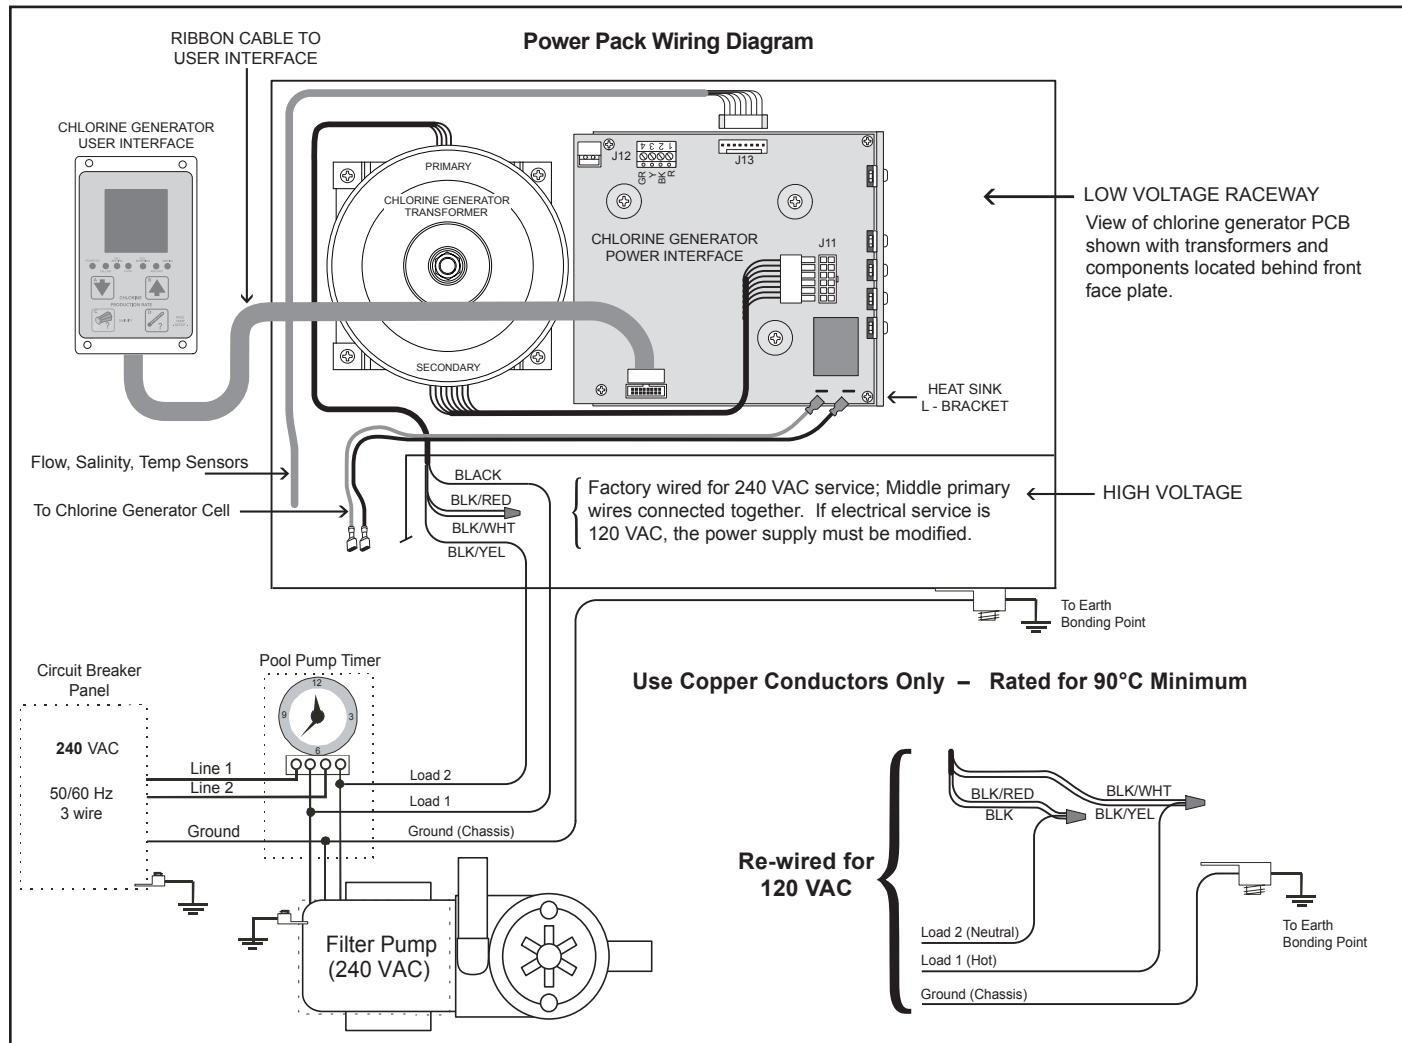
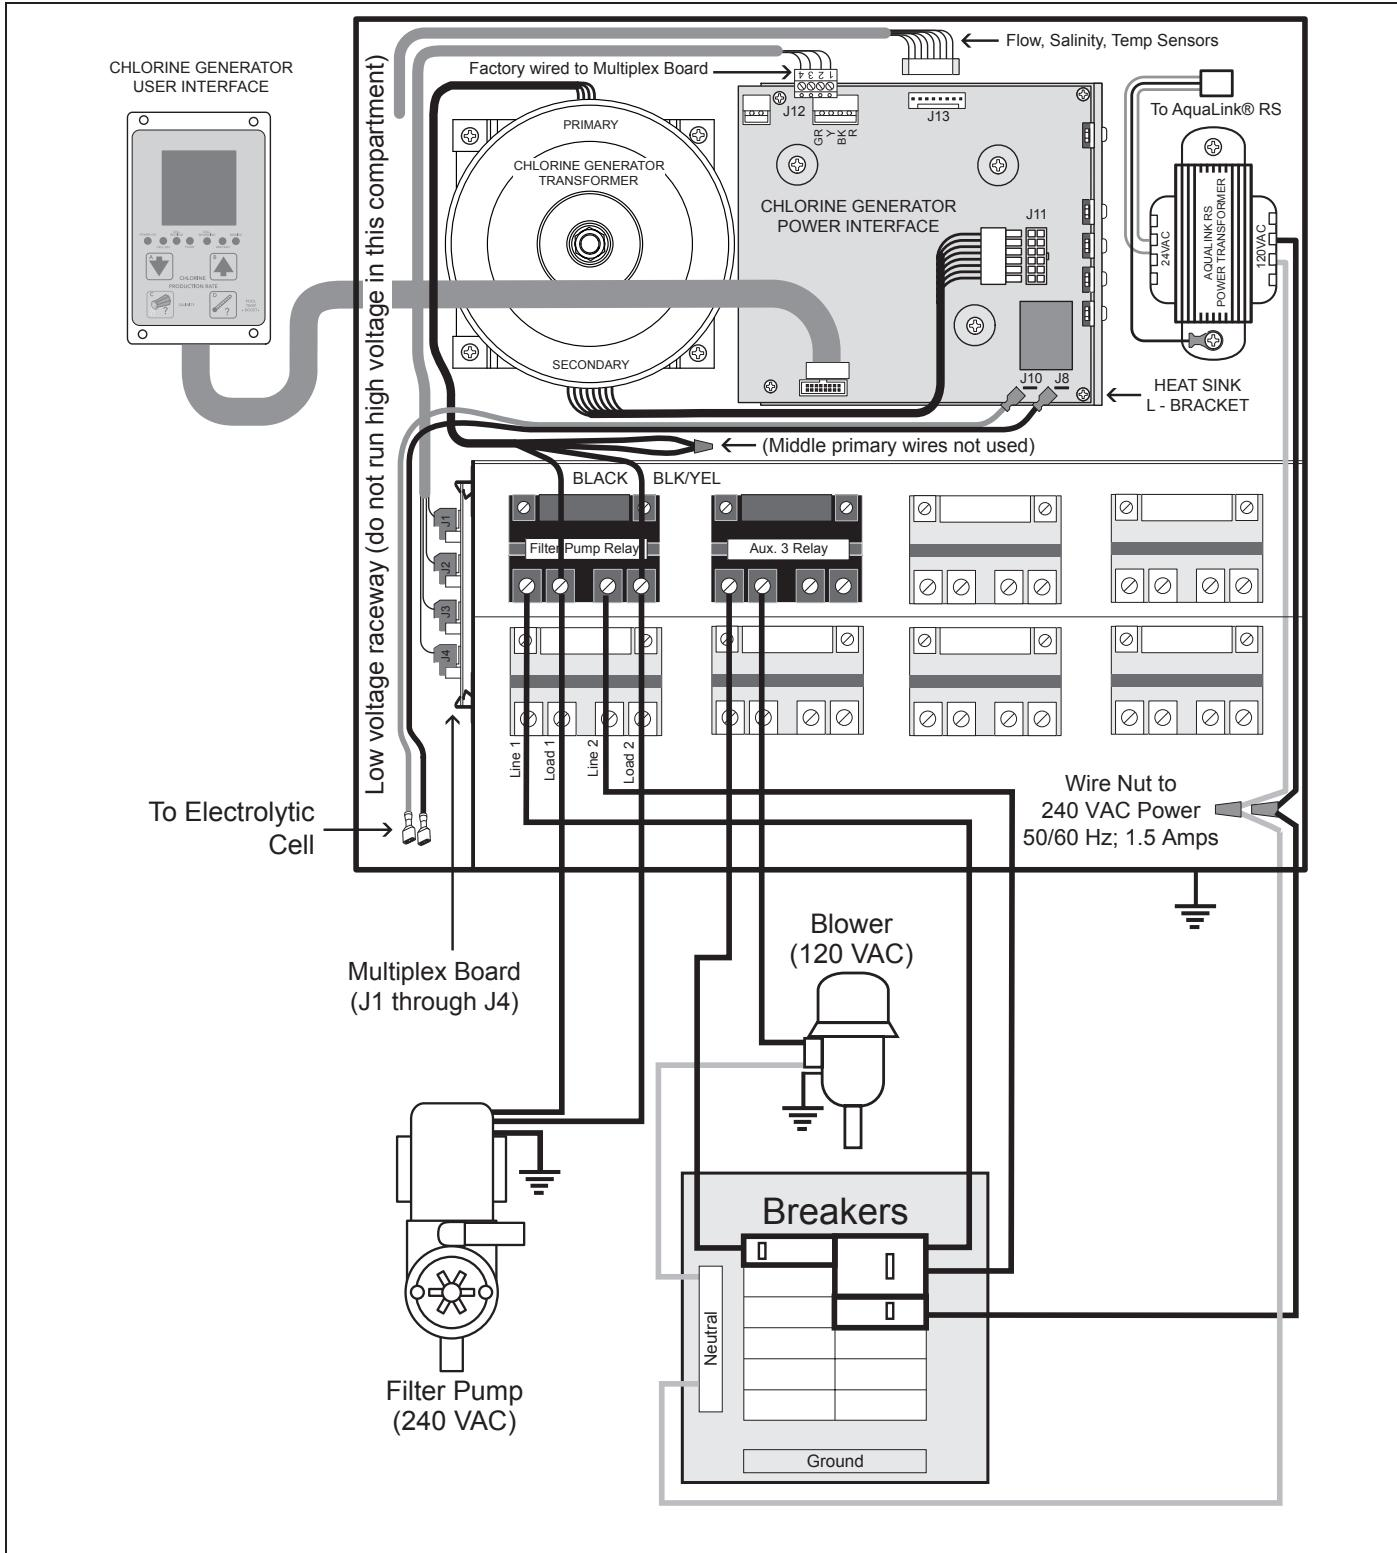
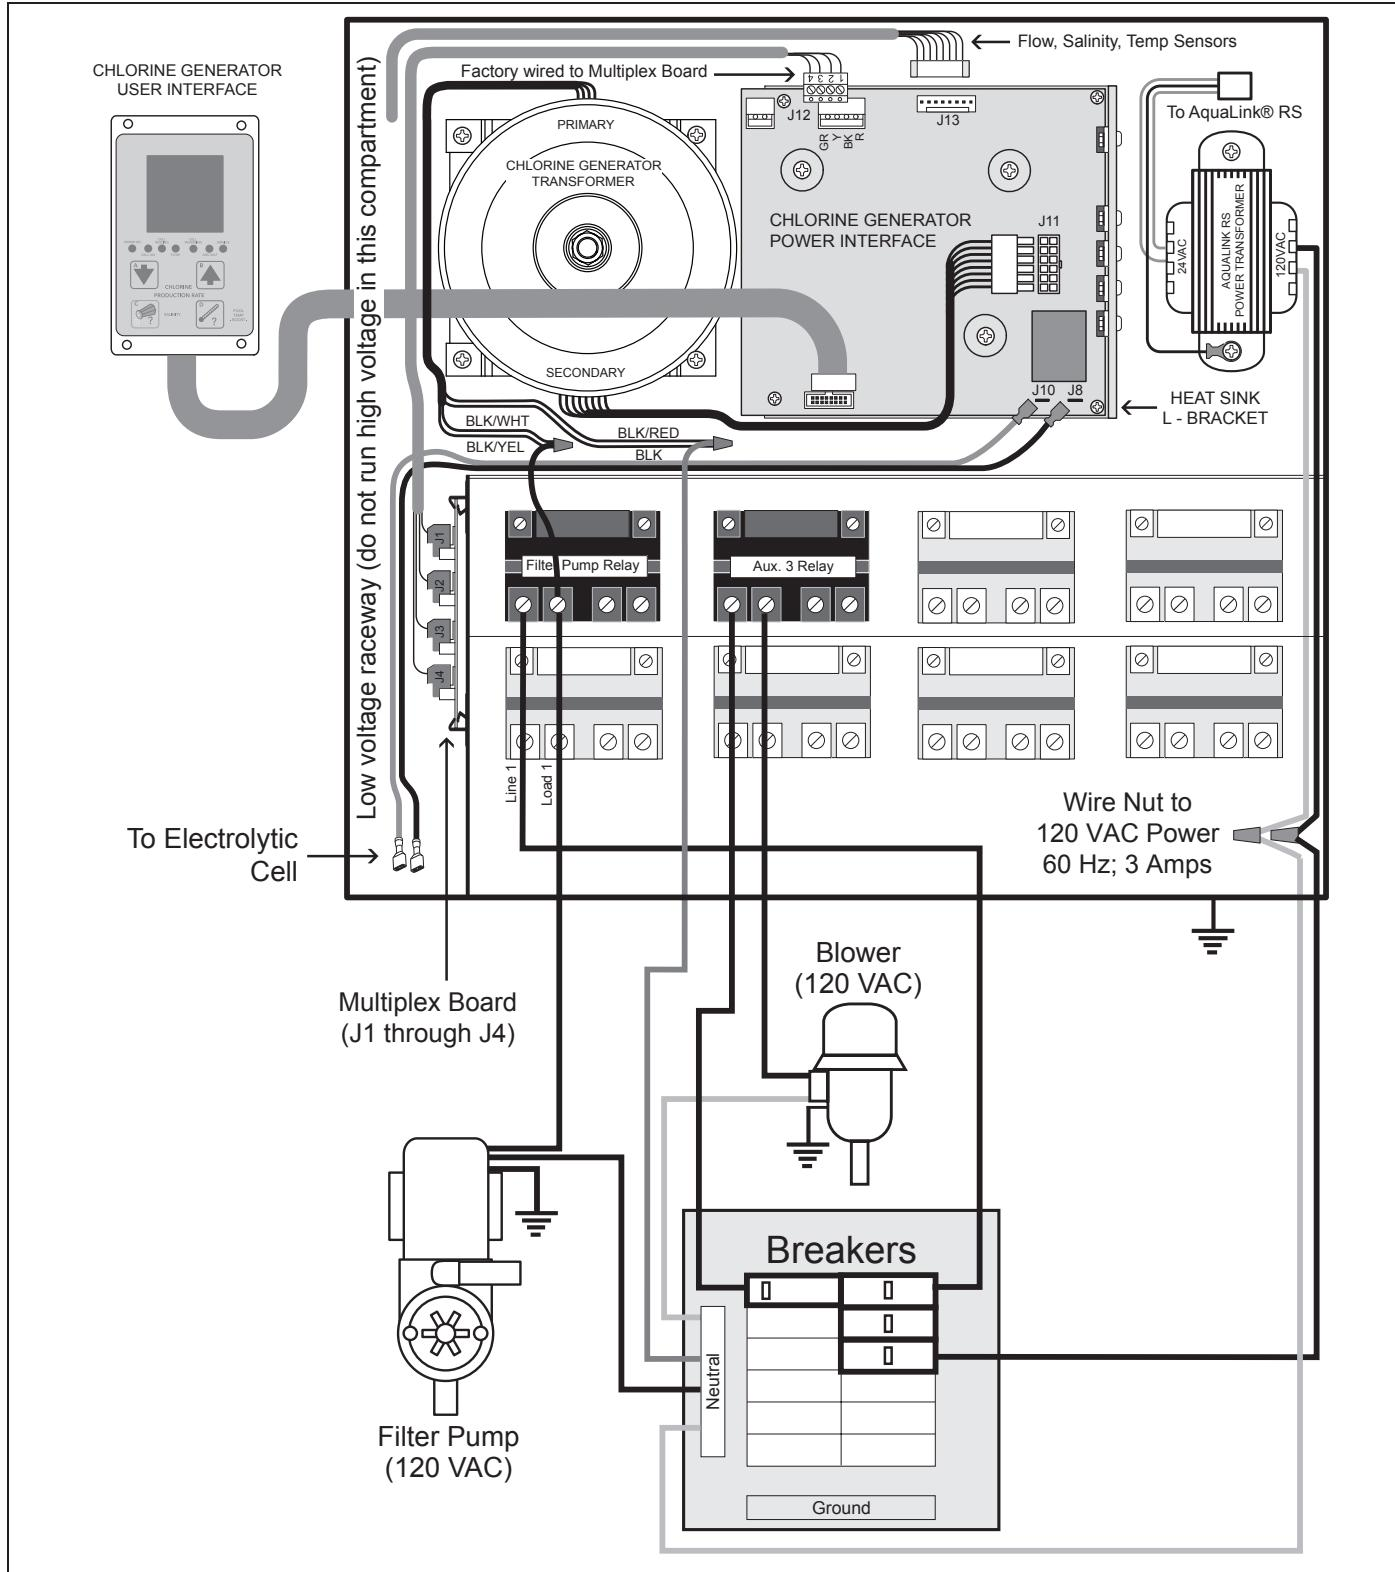

Figure 11. Wiring Diagram for the Power Pack
Figure 12. Wiring Diagram for the AquaLink® RS PureLink™ System with connection to 240 VAC Filter Pump
Figure 13. Wiring Diagram for the AquaLink® RS PureLink™ System with connection to 120 VAC Filter Pump
3. Using the top mounting bracket as a guide, mark three (3) holes on the mounting surface where the power center will be installed. Drill the holes in the mounting surface.
**NOTE** The three (3) mounting holes are 4" (10 cm) apart center to center.
4. Reinstall the mounting brackets to the top and bottom of the back of the control/power center using the four (4) screws that were removed in *Step 2*. Ensure that the brackets are rotated from the original shipping position.
5. Hang the power pack on the surface using the three (3) holes drilled in *Step 3*. With the control/power center in place, mark three (3) holes for the bottom bracket mounting.
**NOTE** As with the top brackets, the bottom bracket requires three (3) mounting holes. The three (3) mounting holes are 4" (10 cm) apart center to center.
8. Check source voltage. (All units are factory wired for 240 VAC). ***In order to use on 120 VAC, the internal factory wiring of the power center must be changed. (see Figure 11 and Figure 13).***
3. Install the strain relief provided with the vessel kit into the low voltage knock out at the power pack. Feed the connector end of the flow/temp/salinity sensor cable through the DC cord strain relief fitting. **Be certain the connector is clean and dry**, then plug the cable into the connector on the power center printed circuit board as shown in Figure 11, Figure 12 and Figure 13. (**Do not pull flow/temp/salinity sensor cable too tight, allow some slack**).
5. Connect the DC cord to the power center. Feed the DC cord through the same strain relief fitting as the flow/temp/salinity sensor at the power pack. Plug the DC cord into the two (2) spade connectors of the wiring harness located in the low voltage raceway of the control/power center, see Figure 11, Figure 12 and Figure 13. This wiring harness establishes the connection between the cell and the power interface board.
8. If the ribbon cable connecting the user interface to the power interface board was disconnected during installation then reconnect before reattaching cover (see Figure 11, Figure 12 and Figure 13).
Wire the PureLink power center transformer to the load side of the filter pump relay. See Figure 12 and Figure 13.